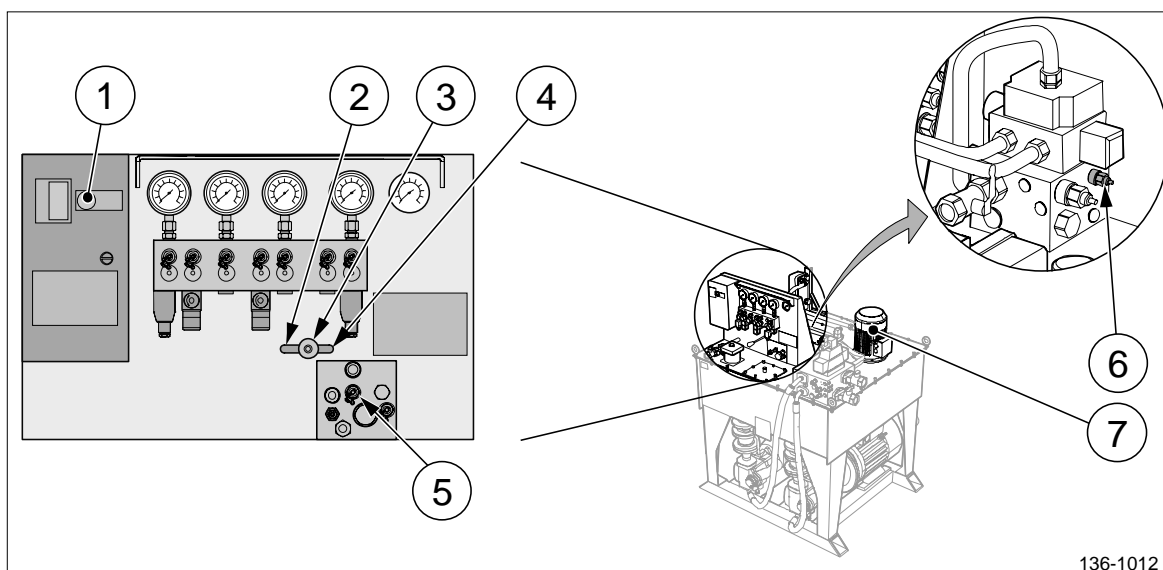

Figure 1 Hydraulic power pack with the emergency manoeuvre panel.
2. Turn the remote/local switch on the connection box on the hydraulic power pack to LOCAL CONTROL (pos 4, figure 1).
5. Set the emergency control valve V12 to EMERG CONTROL 1 (pos 3, figure 1) and increase the pitch to approximately 50% ahead.
7. When the desired pitch has been reached turn the emergency control valve V12 back to NORMAL position (pos 2, figure 1).
10. Connect a test gauge to test point TP3 (pos 6, figure 1) and inspect the hydraulic pressure. The normal pressure is 6 Mpa, but a deviation between +/- 1 Mpa is acceptable.
3. Turn the switch on the connection box on the hydraulic power pack to Local Control (pos 4, figure 1).
13. Set the valve V12 back to NORMAL position (pos 2, figure 1).